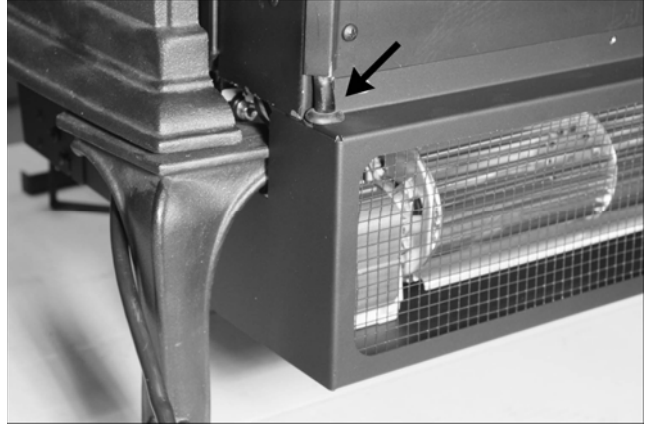
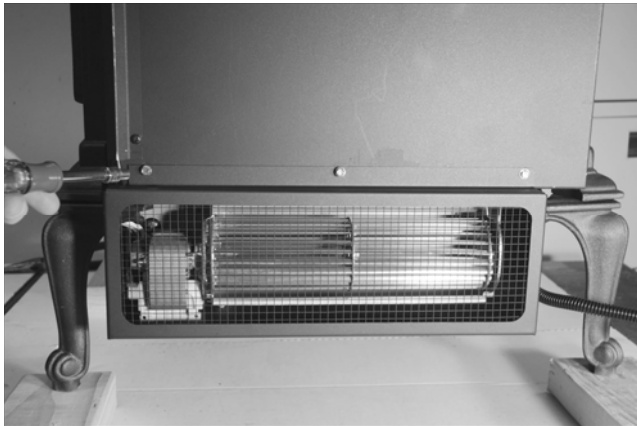

Figure 13
Figure 14
14. Install the fan cover. Remove the three screws from the lower edge of the rear convection chamber. Use these screws to attach the fan cover. Note the grommet on the wires from the control box at the back of the stove. Slide the grommet on the control box wire bundle into the half-round at the top left side of the control cover. See Figure 13. Position the fan cover and insert the three screws. See Figure 14.